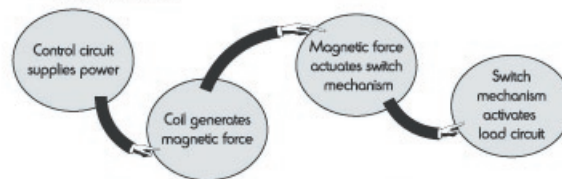
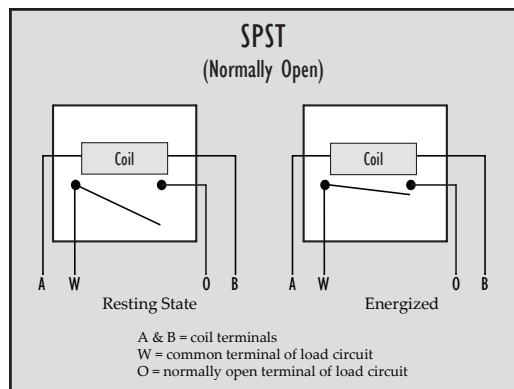

Figure 2. Functional flow diagram of a single-pole, single-throw relay
Figure 1. Single pole, single throw relay
The inner workings of a relay are best described by a model. All electromagnetic relays contain an electric coil powered by AC (alternating current) or DC (direct current). When the coil is energized, it generates a magnetic force that actuates or triggers a switch mechanism. The electromagnetic force relays the action from one circuit to another by activating the load circuit. These circuits, however, must not touch and do not become one continuous circuit. The load circuit is the circuit that operates the device such as a motor, light, or other relay. Figure 1 is a pictorial diagram of a simple, normally open single-pole, single-throw relay.
The term single pole (SP) contact means that all contacts in the relay connect in one position to a common contact (see Figure 1). The term single throw (ST) contact means that the relay's contact is open in one position and closed in the other. Single-pole, single-throw (SPST) relays can control only one load circuit. Study the functional flow diagram in Figure 2 to get a better understanding of how single-pole, single-throw relays work.